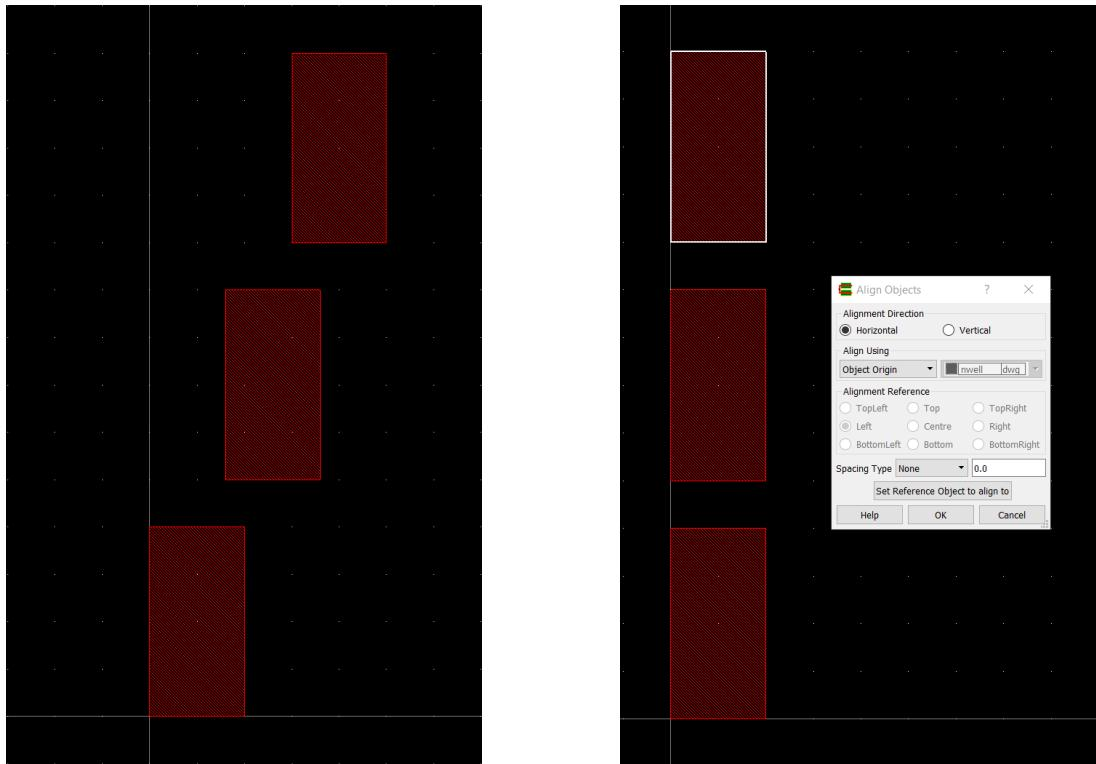

Figure 66 - Before and after horizontal align
*Object Origin* aligns according to the origin of an instance or array or the lower left of the bounding box of shapes. Figure 66 shows object alignment using Horizontal *Alignment Direction*.